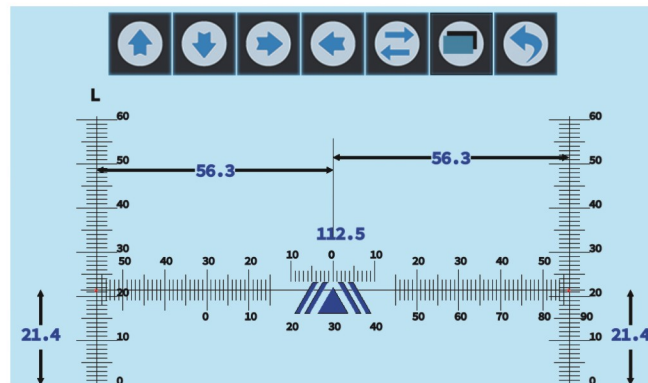

Figure 6.8 Place a marked frame glasses
1.Place a marked frame glasses as shown in figure 6.8